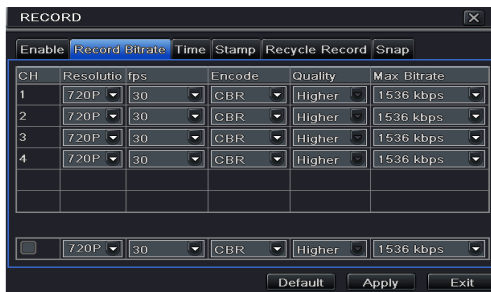

Fig 4-11 Record Configuration-Record Bitrate
Step 1: Enter into Menu→Setup→Record →Record Bitrate. Refer to Fig 4-11: